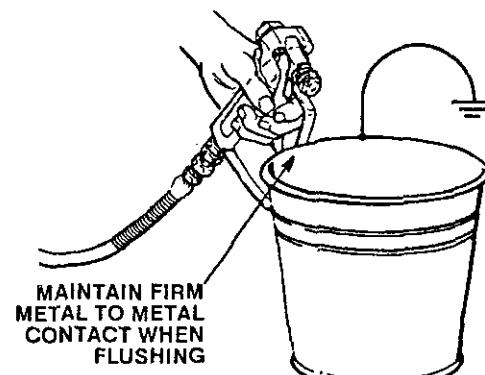

Fig 11-2
7. Hold a metal part of the gun firmly against a metal waste container. See Fig 11-2. Hold the trigger open, turn on the sprayer, and slowly increase the pressure just until the sprayer starts. Keep the gun triggered until all air is forced out of the system and the solvent flows freely from the gun. Release the trigger and engage the gun safety latch..